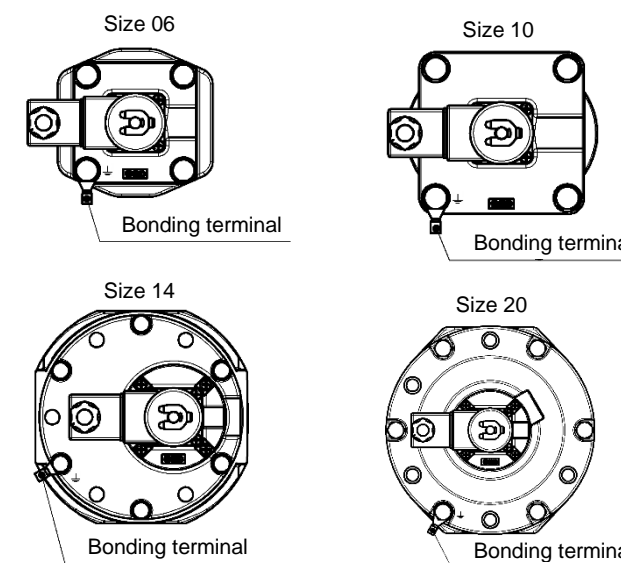

Fig.1
- An external bonding facility is mandatory for this product. A ring terminal is provided (included in product packaging) for this purpose to be installed using the marked main valve bonnet hexagon bolt, see Fig.7. Locations shown in Fig.1.